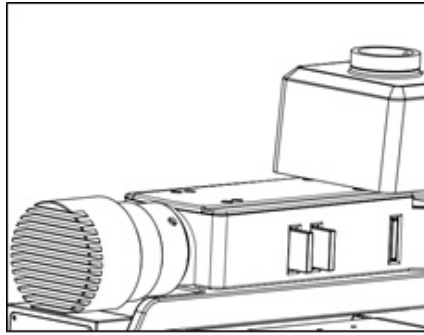

Fig. 28
5.11. Using Filters (Fig. 28)
- For transmitted light illumination, insert the filter required for the observation into the filter insertion slots ⑨. The first click position of the slider is the idle position and inserting the slider till the second click position engages the filter into the light path.